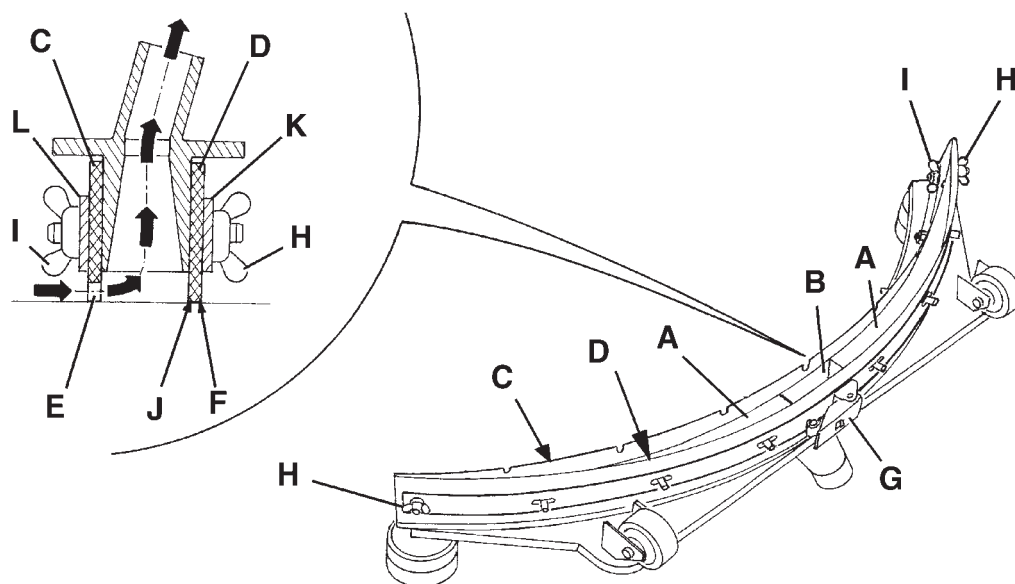
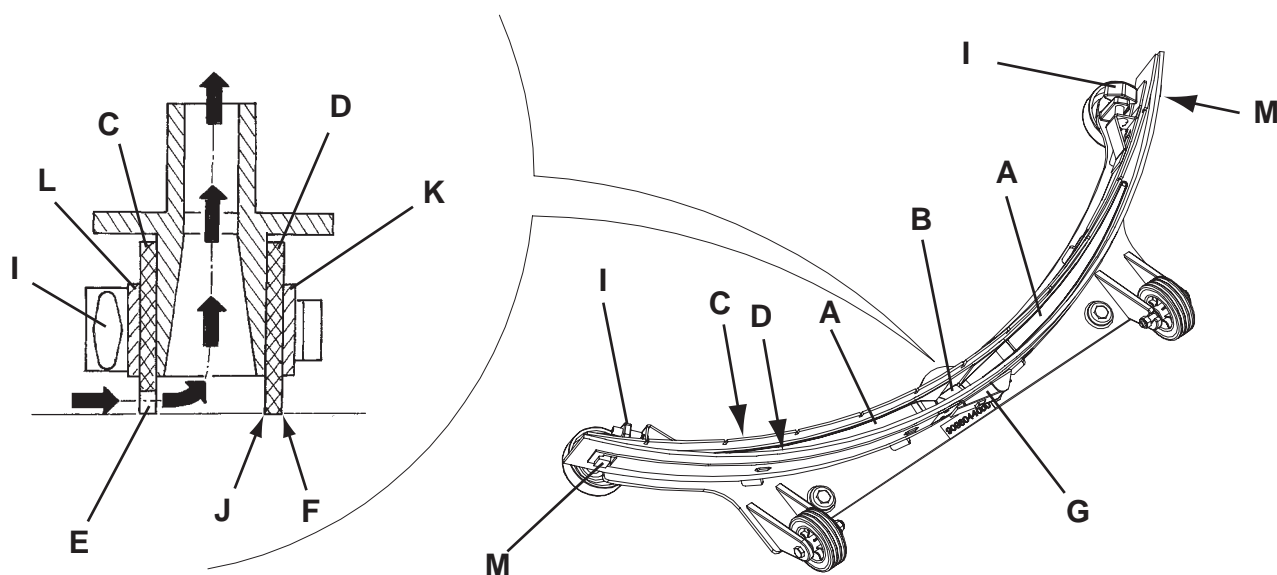

Figure 6
Figure 7
2. Turn the ignition key (80) to "0".
3. Lower the squeegee (25) with the lever (10).
4. Loosen the handwheels (26) and remove the squeegee (25).
5. Disconnect the vacuum hose (15) from the squeegee.
6. Clean the steel squeegee (Fig. 5) or the aluminium squeegee (Fig. 6). Clean the compartments (A, Fig. 5 or 6) and the hole (B) especially. Check the front blade (C) and the rear blade (D) for integrity, cuts and tears; if necessary replace them (see the procedure in the following paragraph).
1. Clean the steel squeegee (Fig. 6) or the aluminium squeegee (Fig. 7), as shown in the previous paragraph.
2. Check that the edges (E, Fig. 6 or 7) of the front blade (C) and the edges (F) of the rear blade (D) lay down on the same level, along their length; otherwise adjust their height according to the following procedure:
- Release the tie rod (G, Fig. 6 or 7) and loosen the wing nuts (H, Fig. 6), or disengage the retainers (M, Fig. 7) and adjust the rear blade (D, Fig. 6 or 7), then tighten the wing nuts, or engage the retainers, and then engage the tie rod.
- Loosen the handwheels (I) and adjust the front blade (C, Fig. 6 or 7); then tighten the handwheels.
3. Check the front blade (C, Fig. 6 or 7) and rear blade (D) for integrity, cuts and tears; if necessary replace them according to the following procedure. Check that the front corner (J) of the rear blade is not worn; otherwise, overturn the blade to replace the worn corner with an integral one. If the other corners are worn too, replace the blade according to the following procedure:
- Release the tie rod (G), remove the wing nuts (H) or disengage the retainers (M), remove the retaining strip (K), then replace/overturn the rear blade (D). Install the blade in the reverse order of removal.
- Unscrew the handwheels (I) and remove the retaining strip (L), then replace the front blade (C). Install the blade in the reverse order of removal.